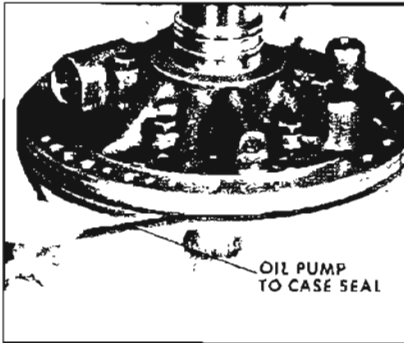

Figure 5-323
1. Install oil pump to case seal. See Figure 5-323.